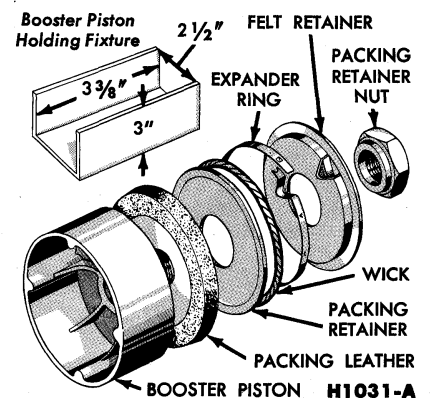

FIG. 6—Booster Piston—Disassembled
1. To disassemble the booster piston, use a holding fixture (Fig. 6), to prevent damaging the piston.
2. With the assembly ring flat on the work bench, insert a new packing leather inside the ring with the lip up (Fig. 6). Place the packing retainer over the packing leather with the cupped edge pointing toward the packing leather.